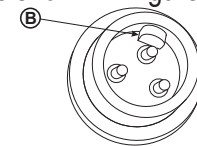

Figure 12. Male Connector
- On the corresponding male connector, locate the key tab (B) as shown in Figure 12.